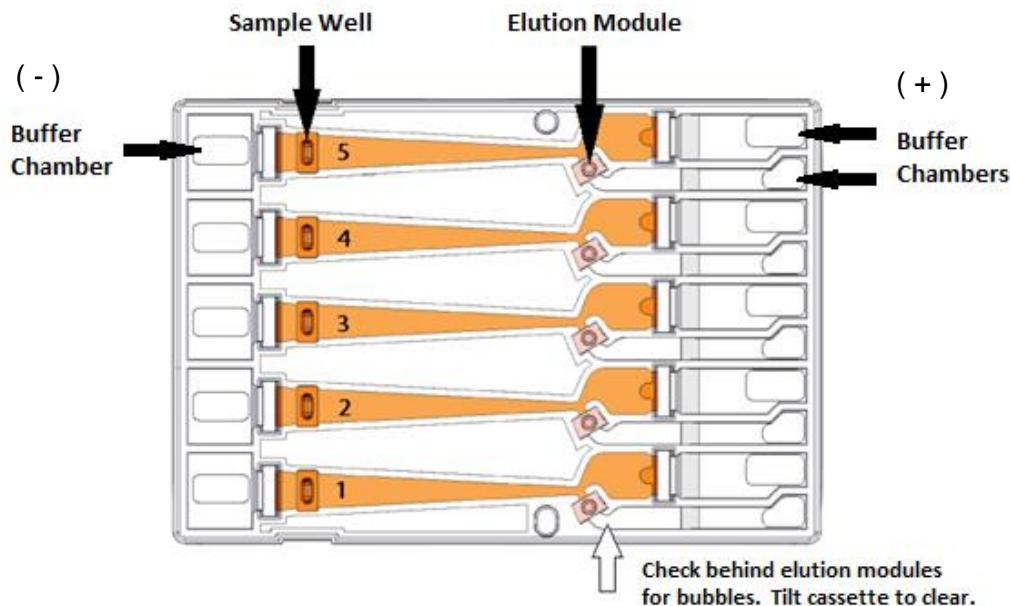

Figure 10.4. A schematic of a Gel Cassette.
1. **Dislodge bubbles from behind the elution wells.** Return the cassette to the right-side up position. Tilt the cassette, sample well side down, to release any trapped bubbles behind the elution modules into the (+) buffer chambers. Gently tap the cassette if necessary. **Figure 10.4**, below, shows location to check for bubbles.